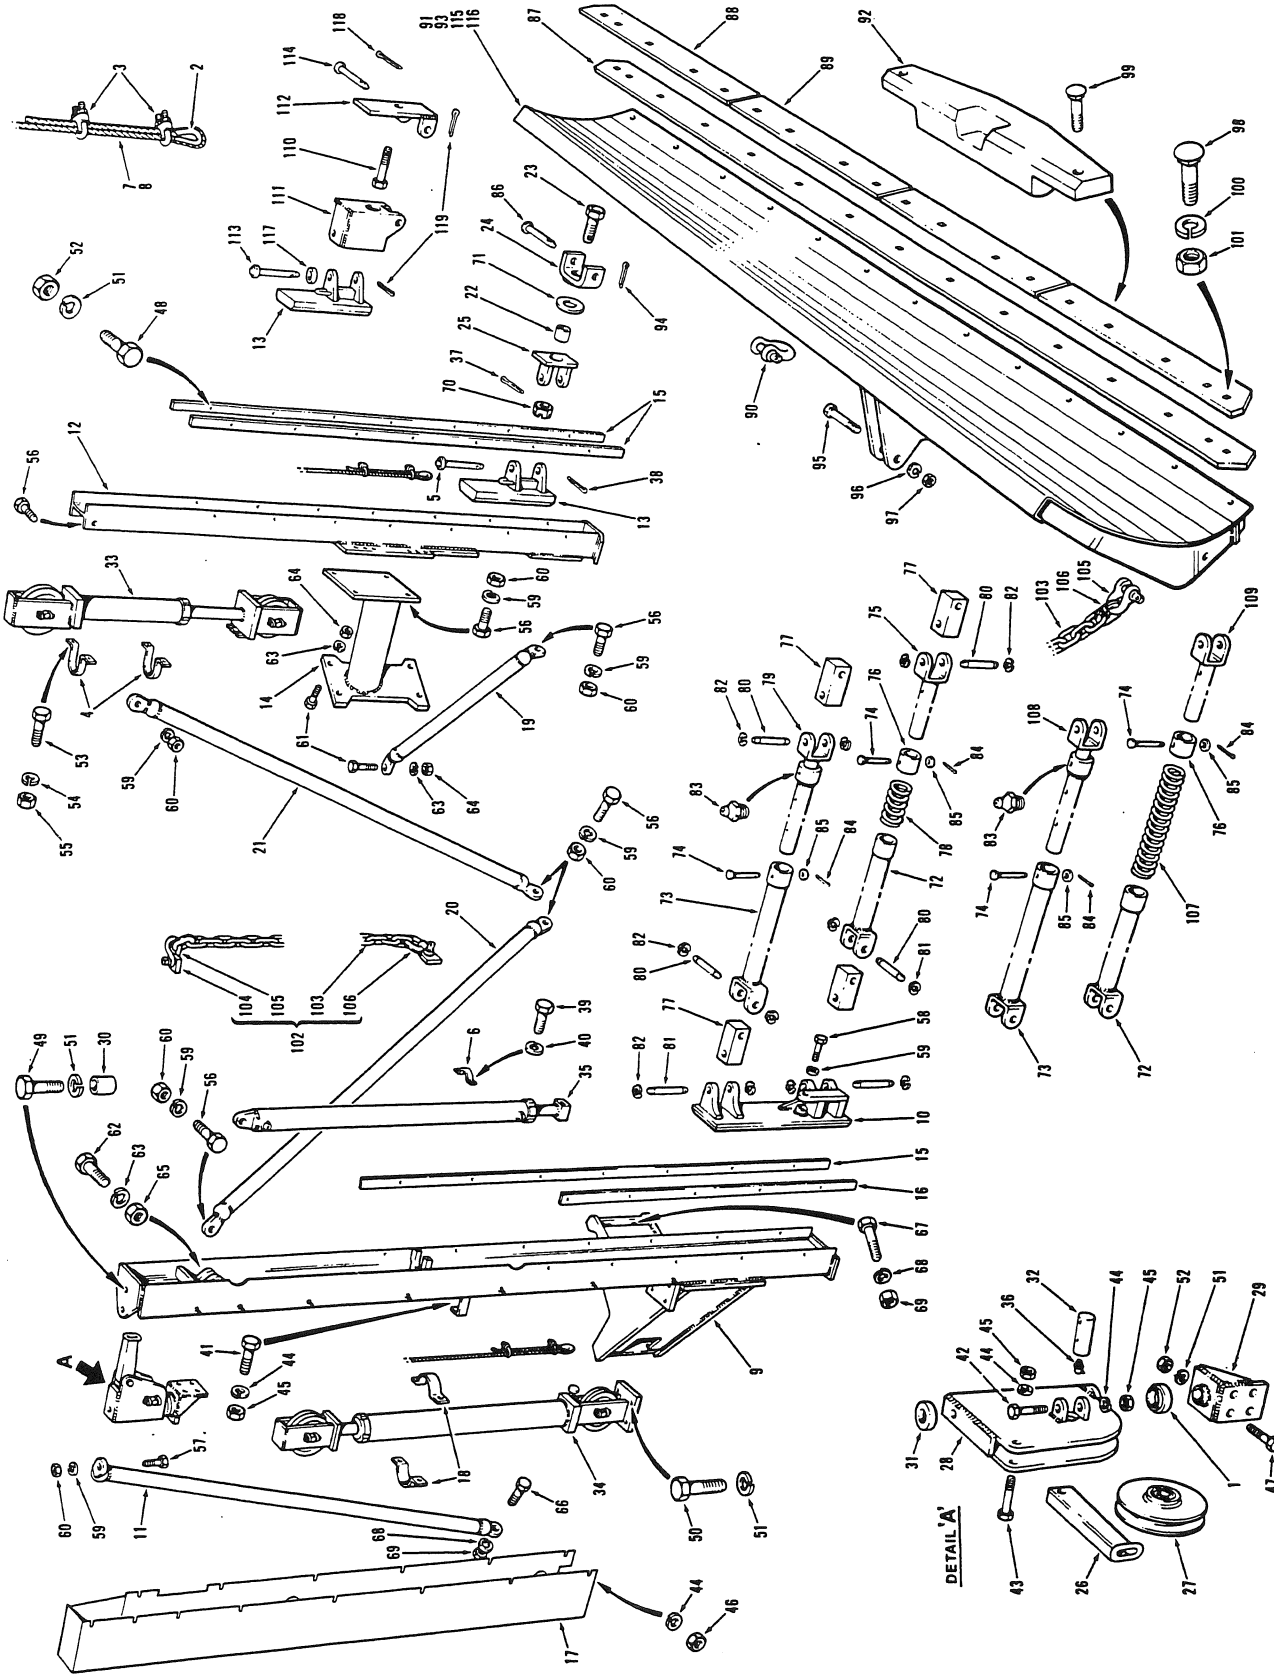

Figure 21
1. Removal and Disassembly (Figs. 21, 22 and 23).
Attach the lifting tackle to the wing blade (91, 93, 115 or 116, Fig. 21). Remove the two hexagon head bolts (95, Fig. 21), nuts (97, Fig. 21) and lockwashers (96, Fig. 21) retaining the knuckles (77, Fig. 21) to the wing blade.
Remove and discard the cotter pin (94, Fig. 21) retaining the pin (86, Fig. 21), and remove the pin. Disconnect the shackle (90, Fig. 21) and remove the cable (8, Fig. 21). Hoist the blade away from the grader. Remove the lifting tackle.
For machines equipped with the optional trip wing installation, remove and discard the cotter pin (119, Fig. 21) retaining the pivot plate pin (114, Fig. 21), and remove the pin. Remove and discard the cotter pin (118, Fig. 21) retaining the hexagon head bolt (110, Fig. 21). Remove the bolt and hinge plate (112, Fig. 21).
13. Attach the lifting tackle to the front mast (12, Fig. 21). Remove the hexagon head bolts (56 and 61, Fig. 21), nuts (60 and 64, Fig. 21) and lockwashers (59 and 63, Fig. 21) retaining the lower front mast brace (19, Fig. 21). Remove the hexagon head bolts (56, Fig. 21), nuts (60, Fig. 21) and lockwashers (59, Fig. 21) retaining the front mast brace (21, Fig. 21). Remove the braces.
14. Remove the four hexagon head bolts (61, Fig. 21), nuts (64, Fig. 21) and lockwashers (63, Fig. 21) retaining the front mast support to the grader frame. Carefully hoist the front mast away from the grader. Remove the lifting tackle.
15. Remove the kliprings (82, Fig. 21) securing the two attachment pins (81, Fig. 21) connection the knuckles (77, Fig. 21) to the rear mast slide (10, Fig. 21). Remove both the upper and lower stand-off arms.
16. Attach the lifting tackle to the rear mast (9, Fig. 21). Remove the hexagon head bolts (56, Fig. 21), nuts (60, Fig. 21) and lockwashers (59, Fig. 21) retaining the forward rear mast brace (20, Fig. 21). Remove the hexagon head bolts (57 and 66, Fig. 21), nuts (60 and 69, Fig. 21) and lockwashers (59 and 68, Fig. 21) retaining the rear mast brace (11, Fig. 21). Remove the braces.
17. Remove the four hexagon head bolts (67, Fig. 21), nuts (69, Fig. 21) and lockwashers (68, Fig. 21) retaining the rear mast support to the grader frame. Carefully hoist the rear mast away from the grader. Remove the lifting tackle.
KEY TO FIG. 21
- a. Remove the four cable clamps (3, Fig. 21) securing the cable ends (7, Fig. 21). Release the two thimbles (2, Fig. 21), and remove the cable.
- b. Attach lifting tackle to the lift cylinder (33, Fig. 21). Remove the cylinder plumbing. Remove the four hexagon head bolts (53, Fig. 21), nuts (55, Fig. 21) and lockwashers (54, Fig. 21) retaining the two clamps (4, Fig. 21). Remove the clamps and cylinder.
- d. Remove the seven hexagon head bolts (48, Fig. 21), nuts (52, Fig. 21) and lockwashers (51, Fig. 21) retaining each slide guide (15, Fig. 21), and remove the guides.
- e. Remove and discard the cotter pin (38, Fig. 21) retaining the pin (5, Fig. 21), and remove the hinge assembly from the slide (13, Fig. 21). Remove the slide.
- f. Remove and discard the cotter pin (37, Fig. 21) retaining the hexagon head bolt (23, Fig. 21). Remove the bolt and jam nut (70, Fig. 21), and separate the hinge (25, Fig. 21), spacer (22, Fig. 21), flatwasher (71, Fig. 21) and mounting swivel (24, Fig. 21).
For machines equipped with the optional trip wing installation, remove and discard the cotter pin (119, Fig. 21) retaining the swivel pin (113, Fig. 21). Remove the swivel pin, spacer washer (117, Fig. 21) and swivel assembly (111, Fig. 21). Remove the slide (13, Fig. 21).
- a. Remove the eight nuts (46, Fig. 21) and lockwashers (44, Fig. 21) retaining the ice shield (17, Fig. 21), and remove the ice shield.
- b. Remove the cable clamps (3, Fig. 21) securing the cable ends (8, Fig. 21). Release the two thimbles (2, Fig. 21), and remove the cable.
- c. Remove the two hexagon head bolts (41, Fig. 21), nuts (45, Fig. 21) and lockwashers (44, Fig. 21) retaining the two clamps (18, Fig. 21).
- d. Attach lifting tackle to the lift cylinder (34, Fig. 21). Remove the cylinder plumbing. Remove the four hexagon head bolts (50, Fig. 21) and lockwashers (51, Fig. 21) retaining the cylinder base plate. Remove the cylinder.